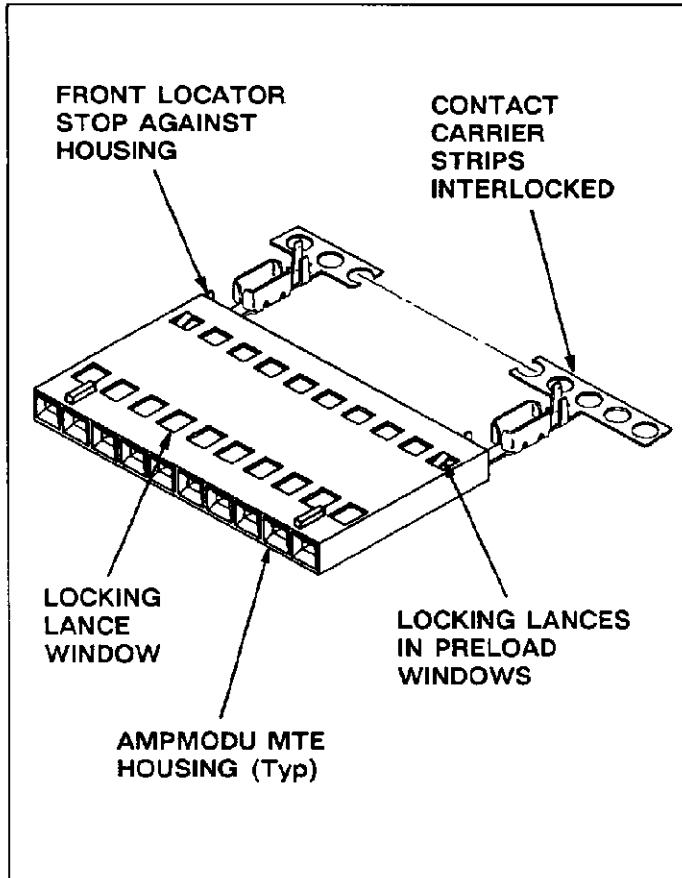

Fig. 6
1. Ensure that the contacts are properly seated in the housing, with the contact locking lances visible in the preload windows, that the front locator stops are against the back of the housing, and that the contact carrier strips are properly interlocked. Refer to Figure 6.